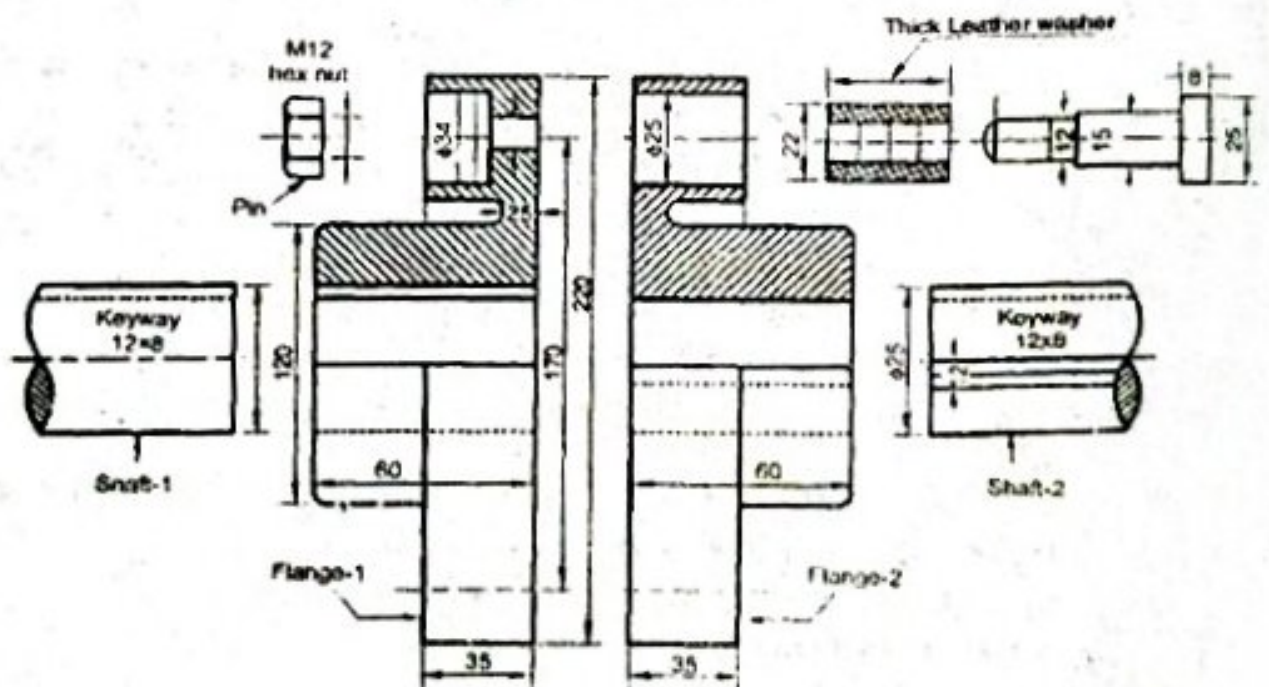

Figure No. 1 / चित्र सं. 1
4. A detailed drawing of different parts of a flexible coupling is shown in figure no. 1. Draw its following views : (Use 1st angle projection) 20